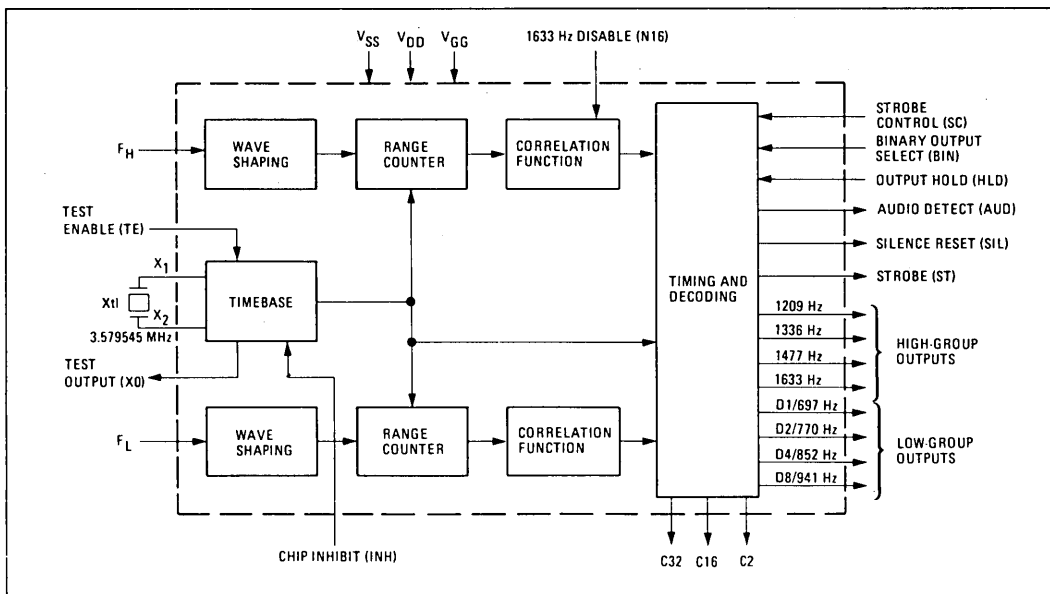
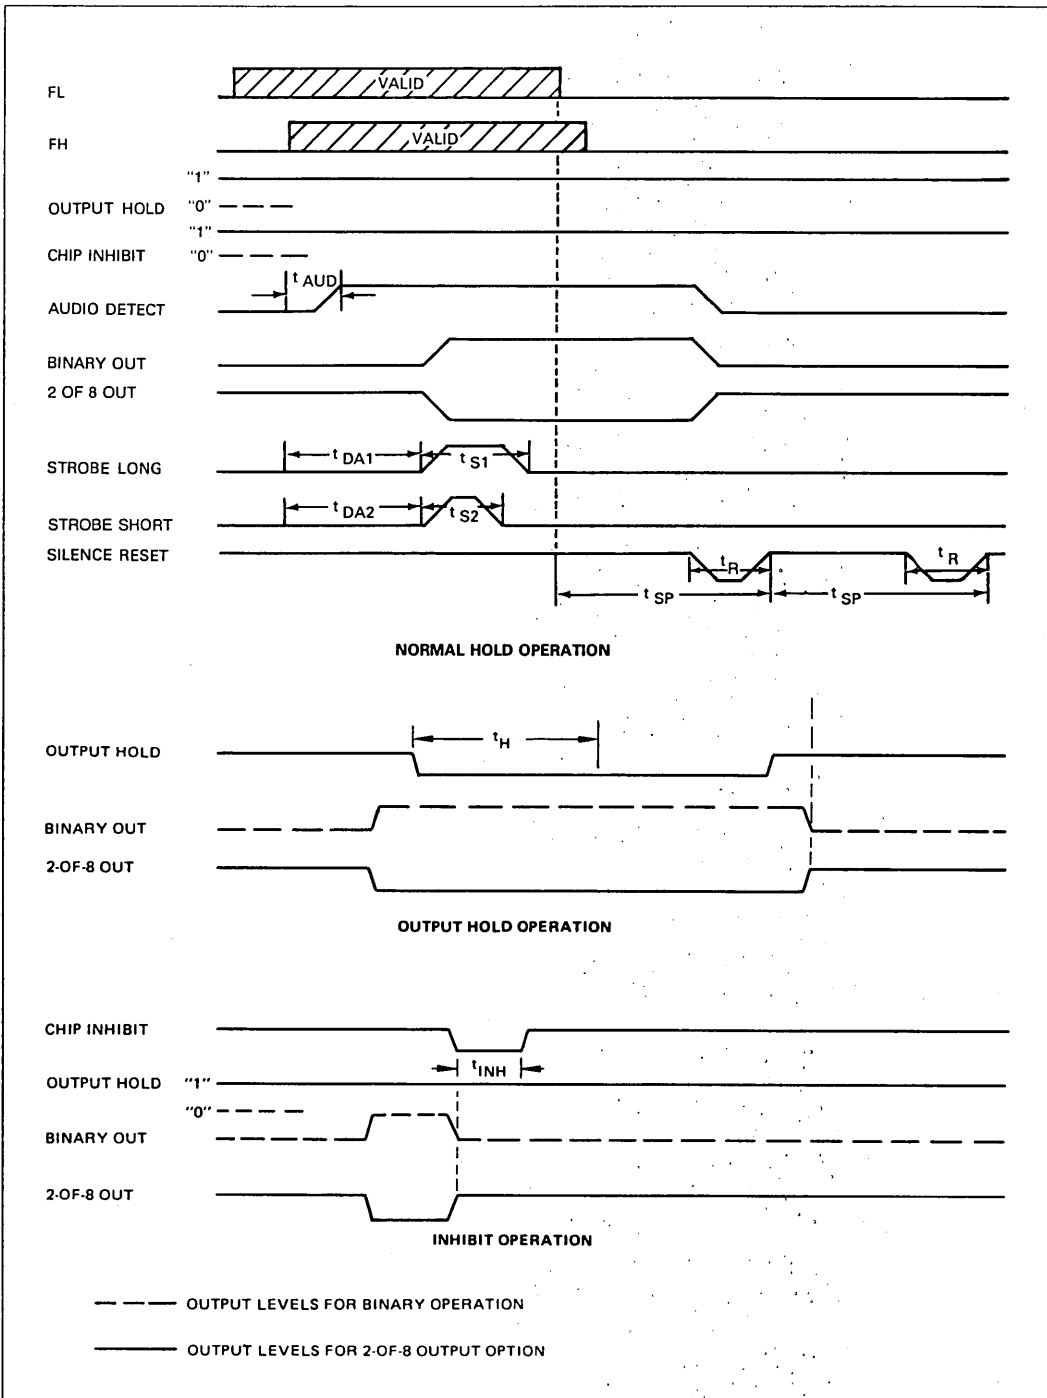

Figure 3. CRC 8030 Block Diagram.
Figure 4. Timing Diagram
A block diagram of the CRC 8030 is shown in figure 3. The functions include timebase generation, wave shaping circuitry, range counters with correlation circuitry, and the output timing and decoding functions.
The inputs and outputs are illustrated in figure 3 and are described below with a positive logic convention assumed. However, the operation is defined such that when a 2-of-8 output format is chosen, the Strobe and the low-group outputs display data with a negative logic convention. The high-group outputs always display data in a negative logic convention. Detailed timing is shown in the timing diagram, figure 4.
- Binary Output Select (BIN) — If this input is low (most negative level), the decoded outputs are displayed in a binary format and Strobe (ST) pulses from a normally low state to a high state (figure 4). If this input is high or open, the decoded outputs are displayed in a 2-of-8 code and Strobe pulses from a normally high state to a low state.
- Strobe Control (SC) — This input controls the pulse-width of the Strobe (ST) output.
- Strobe (ST) — This output indicates when the output data are valid. Validity is defined as detection within 39 ms or 33 ms depending upon the level of Strobe Control. For a description of the operation, refer to the inputs BIN and SC and figure 4.